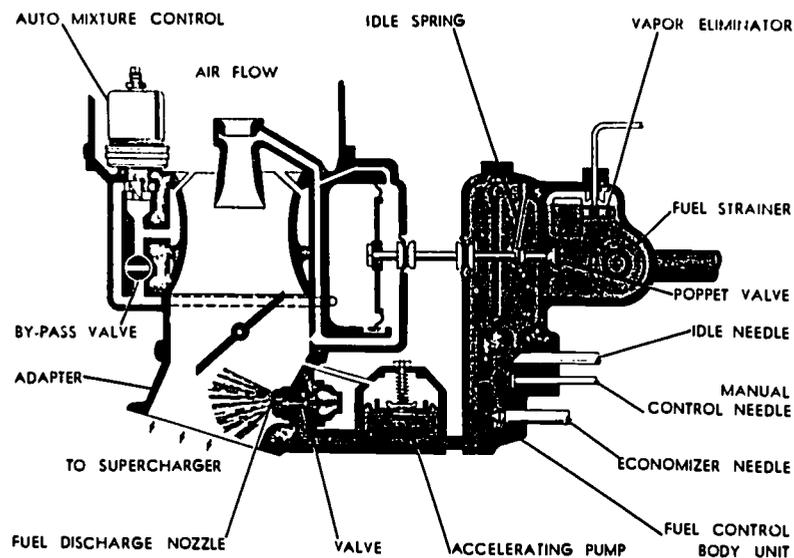

Figure 19. The Pressure Injection Carburetor.
*Pressure injection carburetors.*—As we have pointed out, the float type carburetor is used on small aircraft. The larger craft employ the pressure injection type carburetor. (Fig. 19)